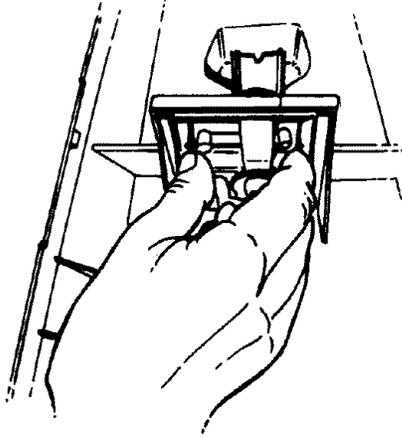

Fig. 30
1. Release two clips and remove from cradle in lower handle. (Fig. 30)